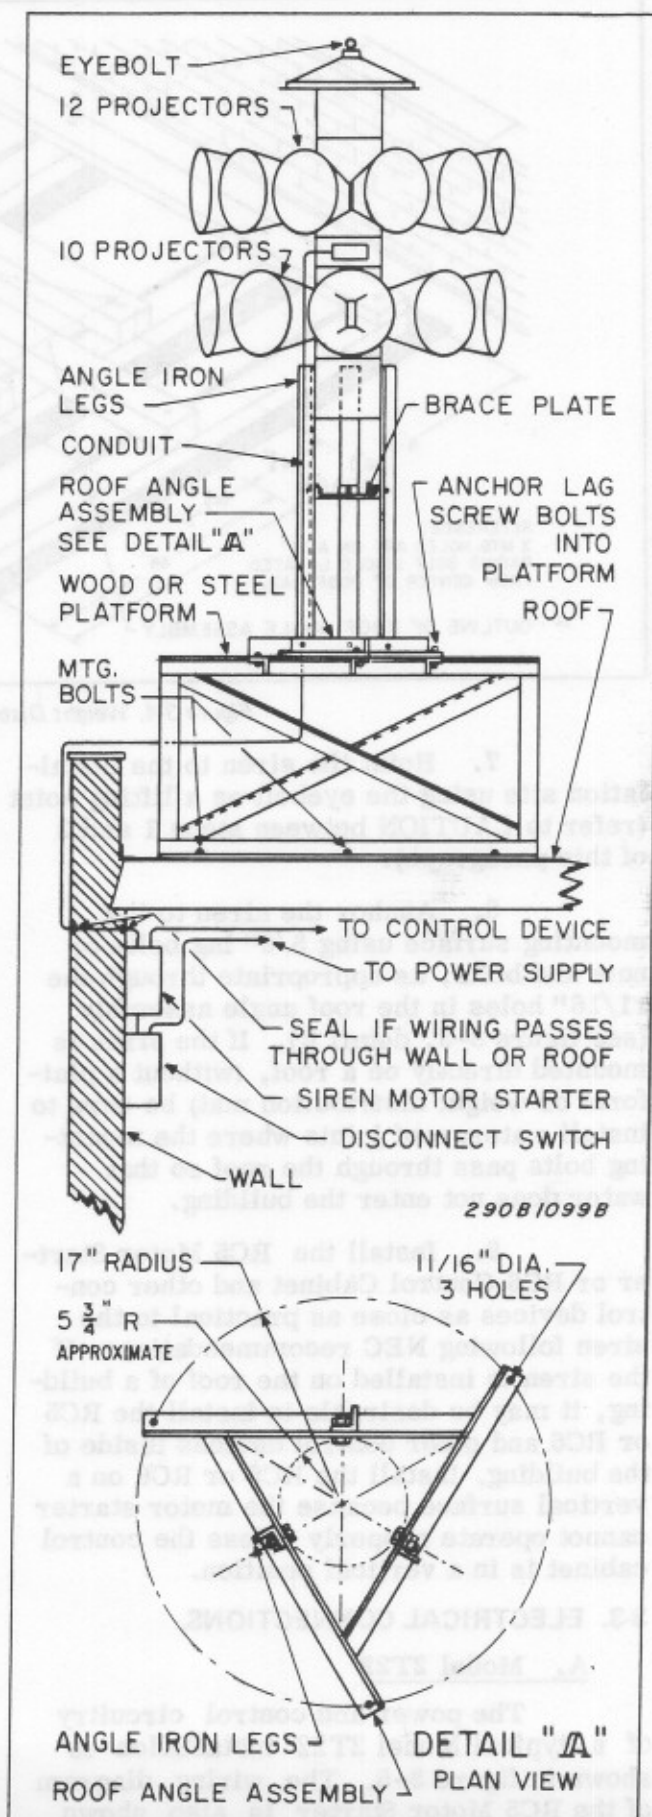
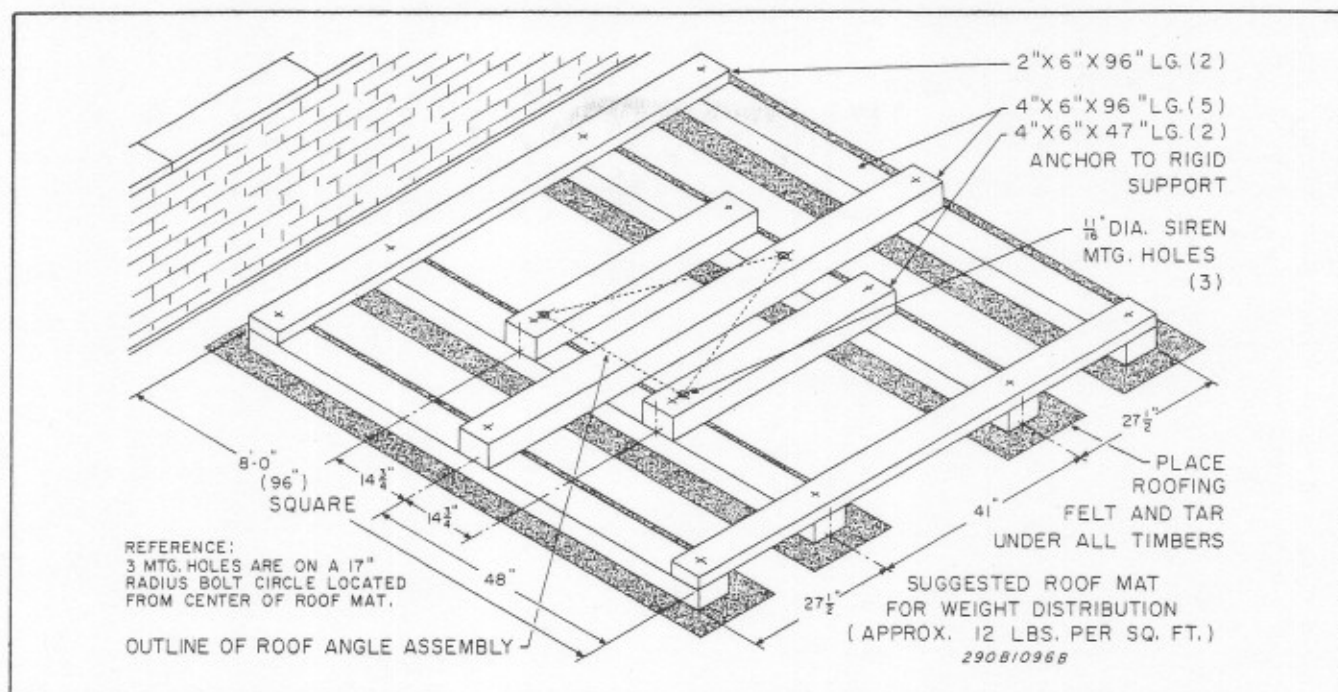

Figure 3-3. Flat Surface Mount with Platform.
Figure 3-4. Weight Distribution Mat Construction.
This installation configuration is practical when the installation site is on a flat roofed building. The siren can be anchored directly to the roof, on a platform as shown in figure 3-3, or on a weight distribution mat like the one shown in figure 3-4. When installing the siren on a flat roof, always be sure that the horns clear parapets or other obstructions by at least ten feet.
When the siren is installed on a flat roof, a weight distribution mat, like the one shown in figure 3-4, may be necessary. This mat is required when the siren mounting surface is unable to support weight in excess of 115 pounds per square foot (562 kg. per square meter).
Therefore, if the mounting surface cannot support more than 115 pounds per square foot (562 kg. per square meter), construct the weight distribution mat shown in figure 3-4. This mat distributes the siren weight to approximately 18 pounds per square foot (88 kg. per sq. m.). A weight distribution mat may be necessary if the siren is to be mounted on a platform.
8. Anchor the siren to the mounting surface using 5/8" lag bolts or nuts and bolts, as appropriate through the 11/16" holes in the roof angle assembly (see figure 3-3, detail A). If the siren is mounted directly on a roof, (without a platform or weight distribution mat) be sure to install waterproof joints where the mounting bolts pass through the roof so that water does not enter the building.